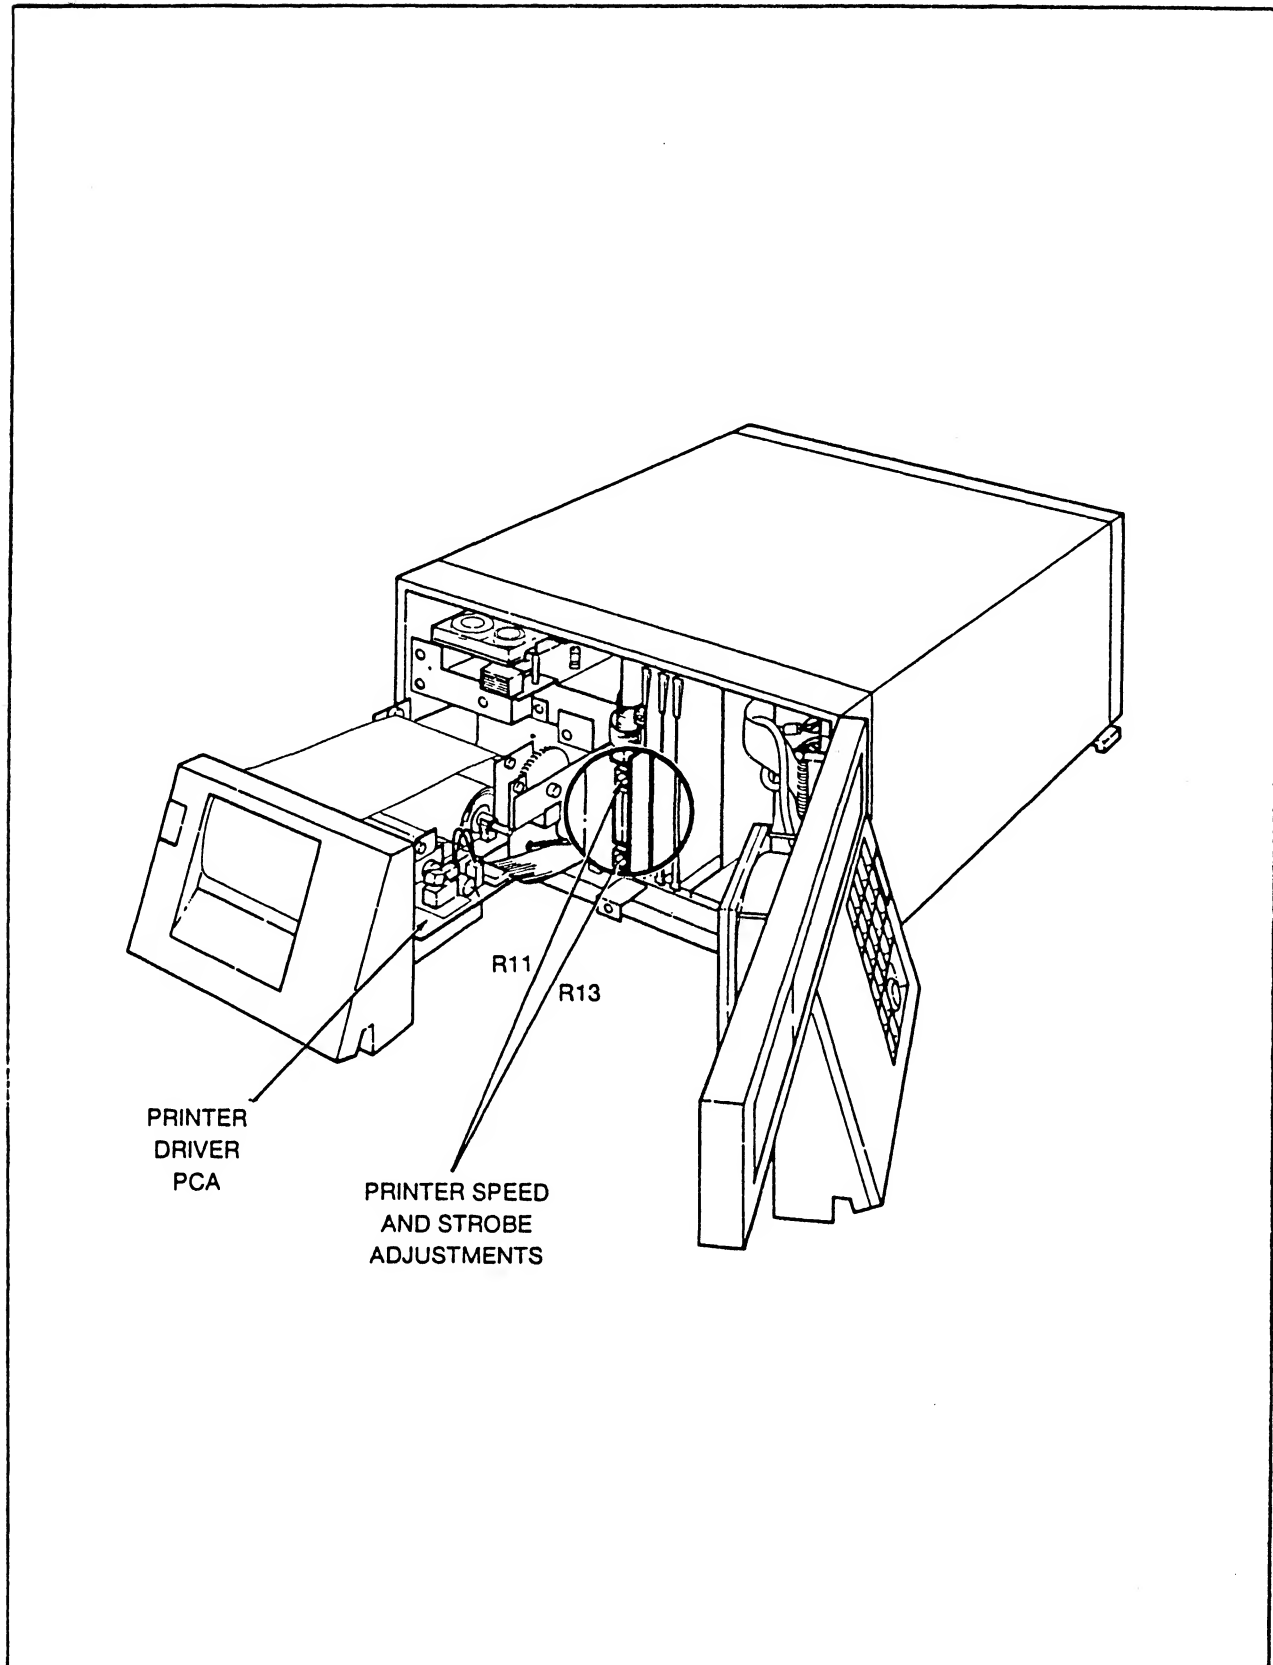

Figure 5-5. Printer Speed and Strobe Adjustments (2280A shown)
3. Locate the printer self-test switch, the print-speed adjustment (R11), and the print-strobe adjustment (R13) on the printer interface board, and locate the contrast adjustment (R5) on the printer driver board (refer to Figure 5-5).